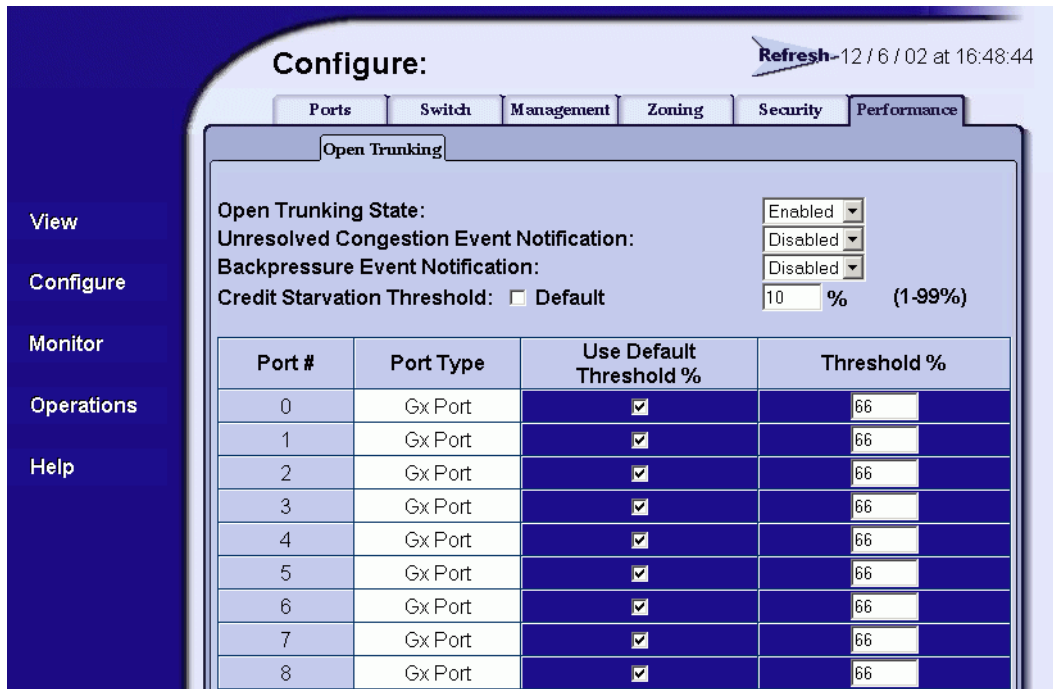

Figure 2-20 Configure Panel (Performance Page with OpenTrunking Tab)
1. At the *Configure* panel, click the *Performance* tab. The *Performance* page displays with the *OpenTrunking* tab selected (Figure 2-20 on page 2-36).